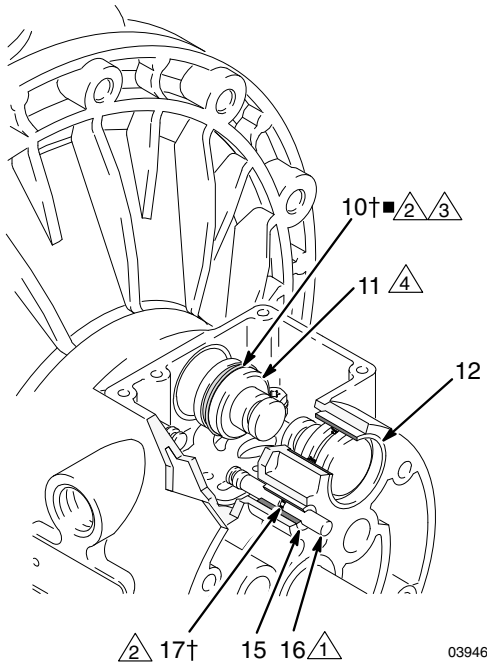

FIG. 8
4. Pull the two actuator pistons (11) out of the bearings (12). Remove the u-cup packings (10) from the pistons. Pull the pilot pins (16) out of the bearings (15). Remove the o-rings (17) from the pilot pins. See Fig. 8.
6. Inspect the bearings (12, 15) in place. See Fig. 8. The bearings are tapered and, if damaged, must be removed from the outside. This requires disassembly of the fluid section. See page 22.
4. Install an o-ring (17†▪) on each pilot pin (16). Grease the pins and o-rings. Insert the pins into the bearings (15), **narrow** end first. See FIG. 8.
5. Install a u-cup packing (10†▪) on each actuator piston (11), so the lips of the packings face the **narrow** end of the pistons. See FIG. 8.
6. Lubricate the u-cup packings (10†▪) and actuator pistons (11). Insert the actuator pistons in the bearings (12), **wide** end first. Leave the narrow end of the pistons exposed. See FIG. 8.